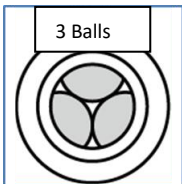

Fig. 1 & 1a view through the nozzle
7. When looking through the nozzle, part of the circumference of three or six balls protruding into the nozzle's pass-through channel must be visible (Fig.1 and 2). The lighter, central gap formed by the configuration of the three or six balls is to form a hexagon in the pass-through channel, similar to a star with three or six points. If the three or six balls are not visible in the grip slider as described above, the grip slider should not be used. Contact the Quality department of Reutlinger GmbH.